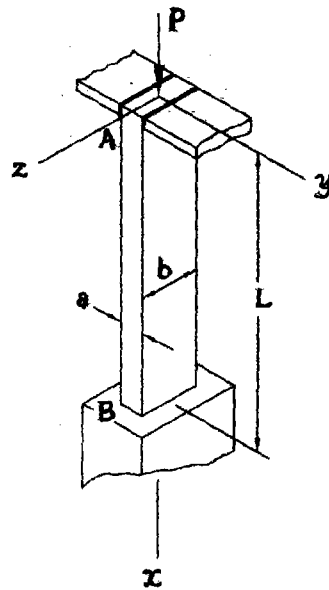

Figure 5/Gambarajah 5
5. An aluminum column of length L and rectangular cross section has a fixed end B and supports a centric load at A as shown in **Figure 5**. Two smooth and rounded fixed plates hold down end A from moving in one of the vertical planes of symmetry of the column, but allow it to move in the other plane.